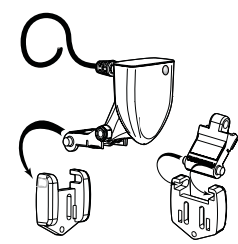

Figure 20
3. Only if you have a Kick-up transducer mounting assembly, insert the pivot/transducer assembly into the mounting bracket (see Figure 20).